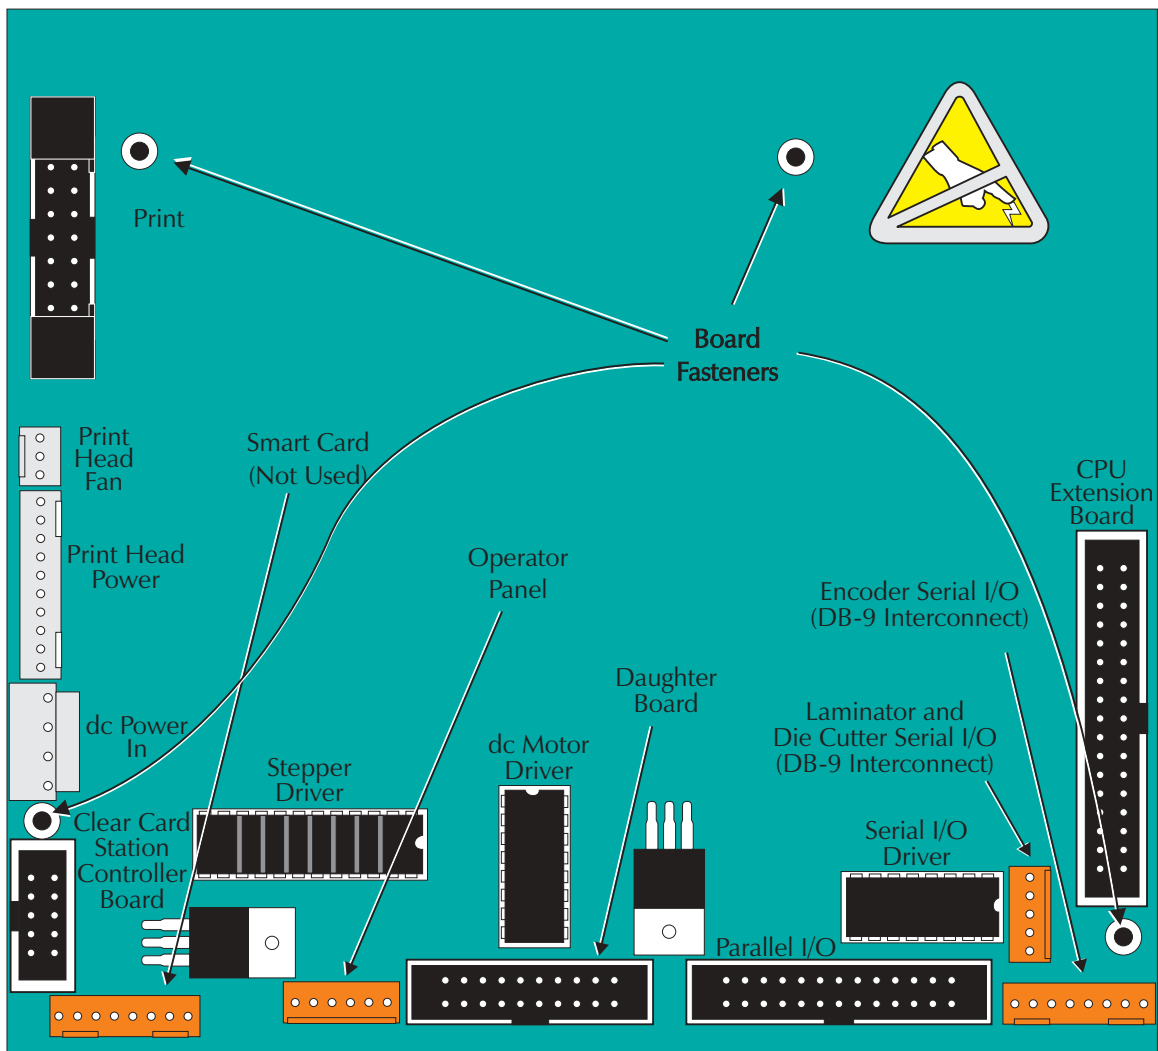

Figure 5-24. CPU Board.
Step 5. While feeding the cables through the cutouts in the rear plate, remove the Printer Station. See Figure 5-24 for cables to the Print Head, Fan, and Daughter Board.
Refer to Figure 5-24, and proceed as follows: